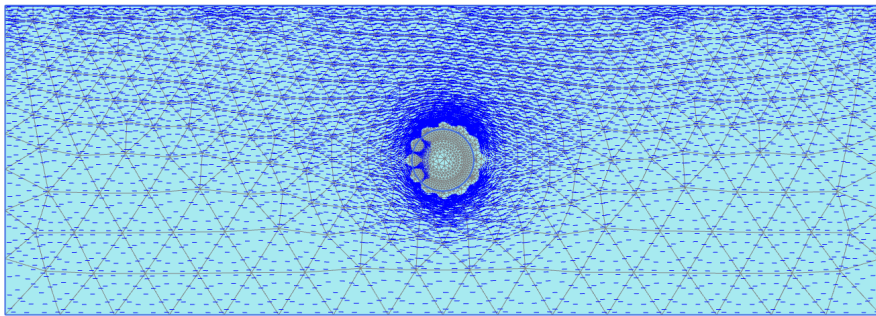

Figure 16.7 Groundwater flow field for transient phase for an intermediate step ( $t \approx 38$  days)
- Figure 16.7 shows the distribution of the groundwater flow field for an intermediate step for the transient calculation (around 80 days).